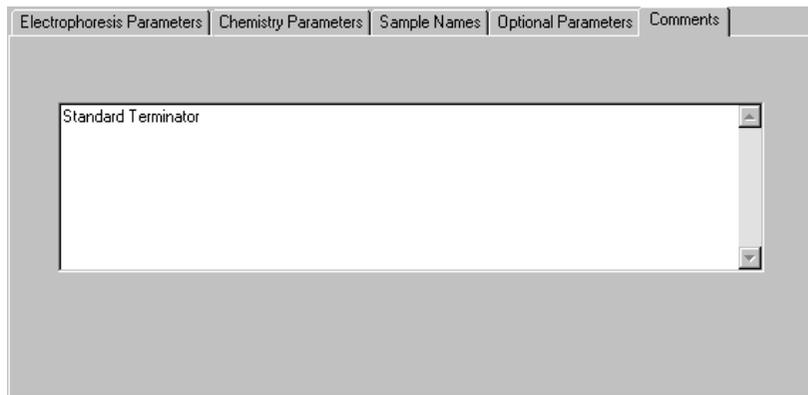

Figure 4-6. The Comments tab with sequencing comments displayed.
11. Click the **Comments** tab. The Comments tab appears (figure 4-6).